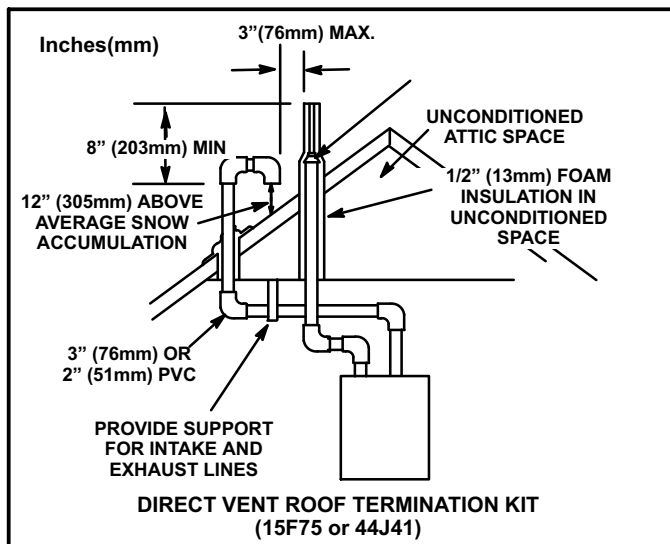

FIGURE 32
Intake and exhaust pipes may be routed either horizontally through an outside wall or vertically through the roof. In attic or closet installations, vertical termination through the roof is preferred. Figures 32 through 42 show typical terminations.
3. On roof terminations, the intake piping should terminate straight down using two 90° elbows (See figure 32).